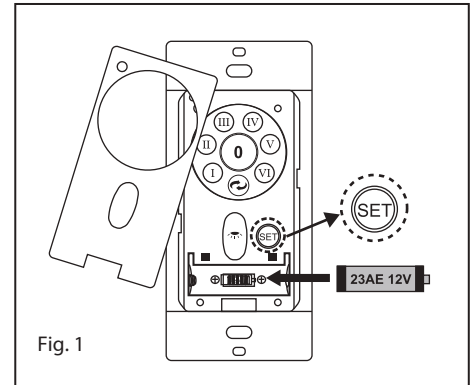

Fig. 1
- 1 Remove ball from downrod by loosening set screw in the side of the ball. Slide ball down and remove ball pin; remove ball. (Fig. 1)
- 1 Insert the receiver into the ceiling mounting bracket with the flat side of the receiver facing the ceiling. (Fig. 1) For best performance, make sure the Black Antenna, on the end of the receiver, remains extended and not tangled with any of the electrical wires.
- 1 Remove the existing wall plate and the old switch from the wall outlet box. (Fig. 1)
Follow the below steps to use the set button. (Fig. 1)